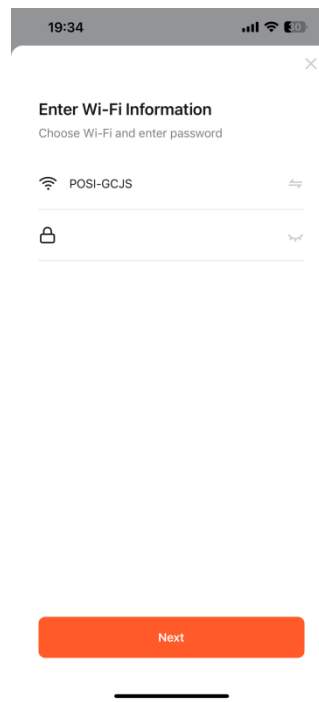
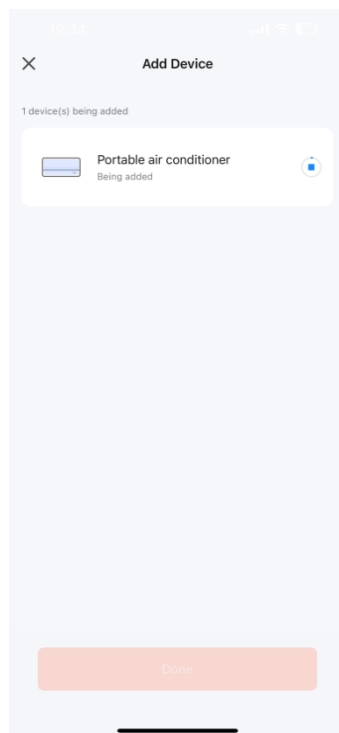

Fig.6
Fig.7
3.7. You will get the prompt that asks you to use 2.4 GHz Wi-Fi network and enter password. (Fig.6) Tap “Next” to get Fig.7